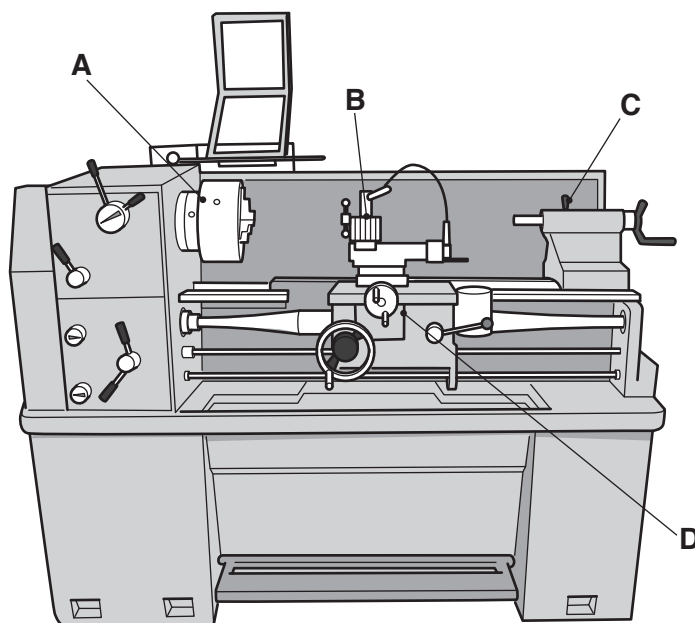

Fig. 7
- (d) Fig. 7 shows a machine used in the workshop to make the handle. [2]
- (i) Name the machine in Fig. 7 and state **three** manufacturing processes the machine can be used for. [4]
- (iii) State **two** possible safety hazards when using the machine shown in Fig. 7 and give **two** suitable safety precautions that should be taken. [4]